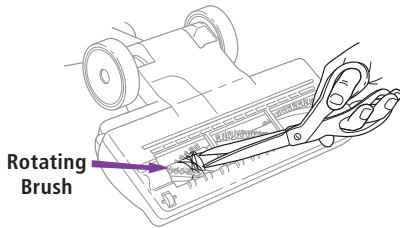

Fig. 32
- 2 Inspect the opening underneath and the rotating brush. If a build-up of debris is present, remove it. Carefully cut anything wound around the rotating brush with scissors. Avoid damaging or cutting the bristles. (Fig. 32)